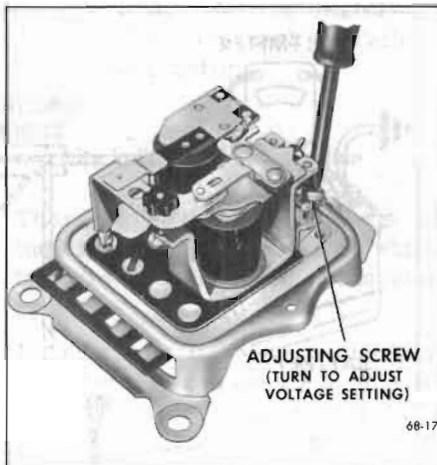

Figure 68-17—Adjusting Voltage Regulator Setting
6. Starting with the changed voltage reading, increase or decrease voltage (the amount determined in Step 5) as shown in Figure 68-17.